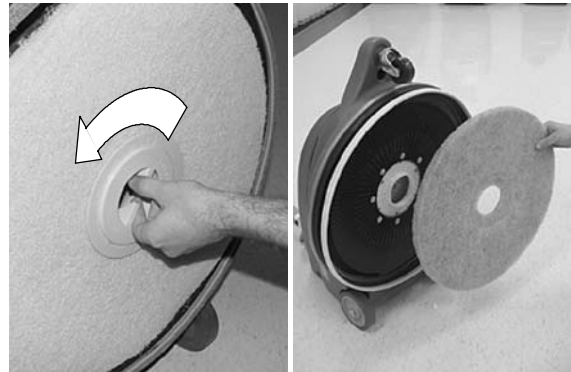

FIG. 9
- After each use, unplug the power cord and inspect the burnishing pad for wear. If worn, remove the burnishing pad and flip it over or replace the pad (Figure 9).